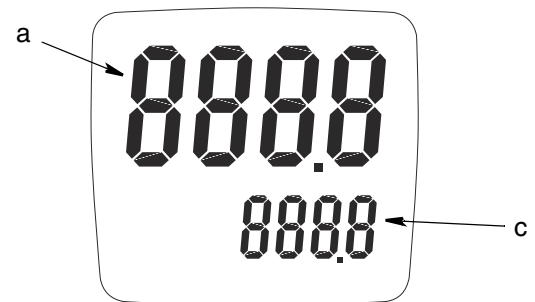

FIG. 4
The partial delivery meter (a) must read zero. If the meter indicates a value other than zero, press the RESET button (b). (FIG. 4)
- During delivery the partial delivery meter (a) will indicate the amount of grease dispense since the last time the RESET key (b) was pressed. The cumulative total delivery meter (c) is also updated during delivery. (FIG. 4)